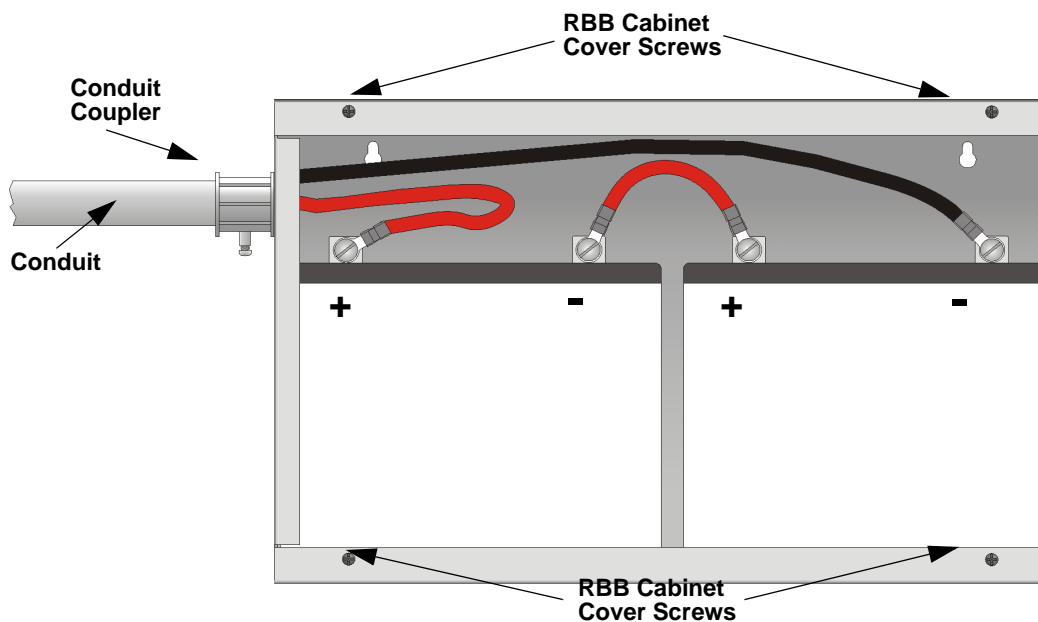

Figure 4.6 Battery Connections in the RBB Cabinet
3. Run extended battery cable from control panel cabinet through conduit to RBB cabinet. See Figure 4.6.
NOTE: Figure 4.6 is an example of how the wire connections can be routed. However, any other cabinet knock-outs (on either the main control panel or the RBB cabinet), that are not previously being used may be utilized to connect conduit between the two cabinets
4. Connect battery leads to the backup battery terminals. See Figure 4.6.
5. Insert the RBB cover screws into the cover mounting holes. See Figure 4.6.